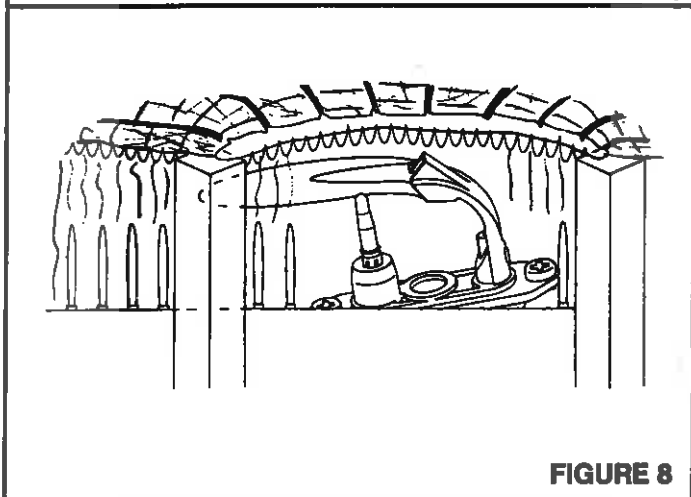
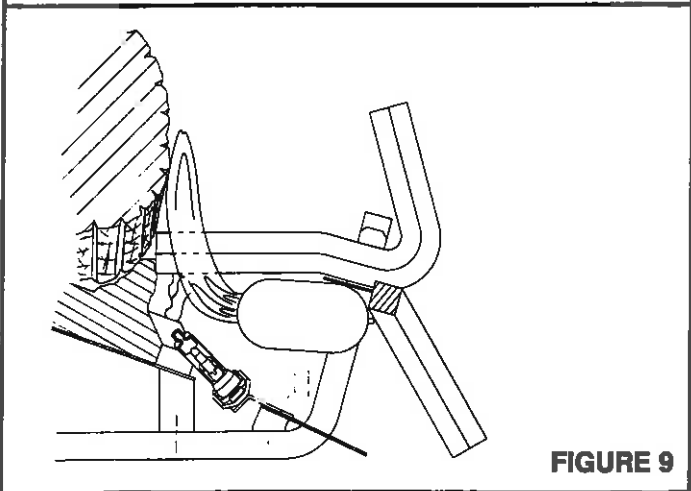

FIGURE 8
FIGURE 9
**Main Burner:** The flames at the burner front face will be blue becoming yellowish as they hit the bottom of the front logs. Typical main burner flame shapes are given in Figure 8 and Figure 9.